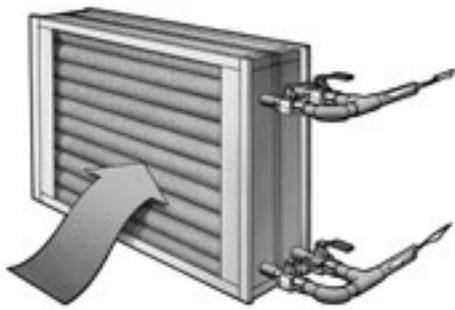

Figure 4 Heat dissipater
- Circulating fluid through a heat dissipater (see Figure 4)—a good, but potentially expensive, engineering solution